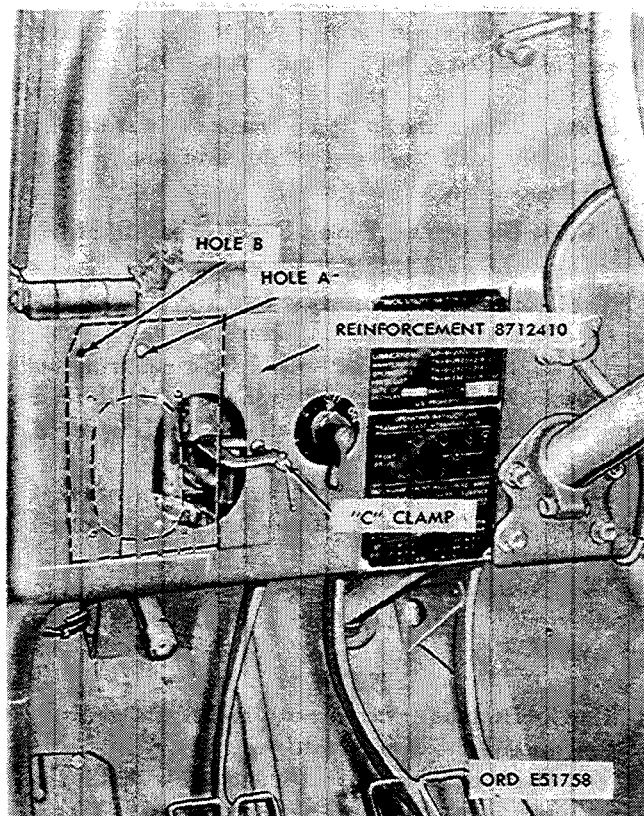
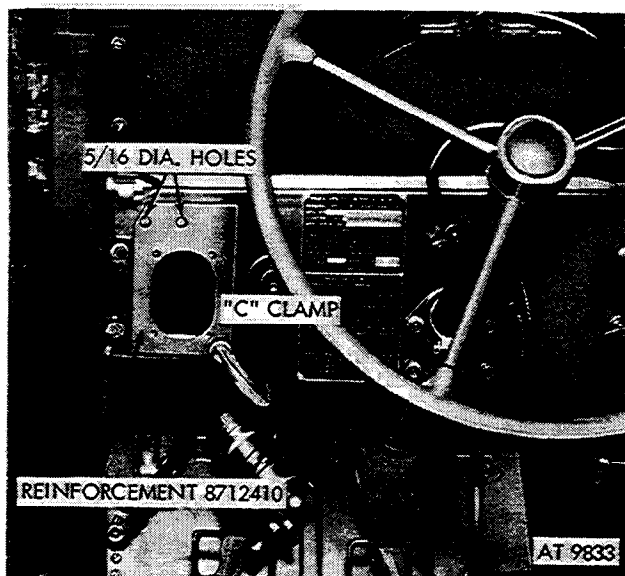

Figure 3-36. Reinforcement plate, left dash panel (softtop vehicle).
Figure 3-37. Reinforcement plate, left dash panel (hardtop vehicle).
(1) Position dash panel reinforcement plate (1), on the front of the dash panel with four holes in reinforcement plate centered over the light switch mounting holes in the dash panel.
(2) Secure reinforcement plate in this position with a C-clamp as indicated in figure 3-36 for soft top vehicle or figure 3-37 for hardtop vehicle.
(1) Use the upper left hole "A" indicated in figure 3-36. Move the reinforcement plate to the left as shown by the dotted lines for the location of hole "B".
(2) Drill a 5/16 inch diameter hole in the dash panel. These two holes will be used for mounting the catch assembly bracket and catch assembly.
(3) Remove the C-clamp and reinforcement plate.
(1) Using the upper holes in the reinforcement plate as a guide, indicated in figure 3-37, drill two